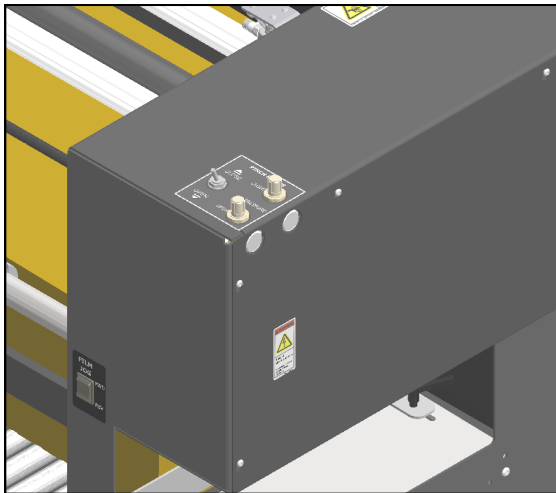

Figure 4-7B. Toggle Switch.
1. To begin threading the bags through the **MaxPro Bagger**, push the Toggle Switch to the OPEN position. Figure 4-7B.